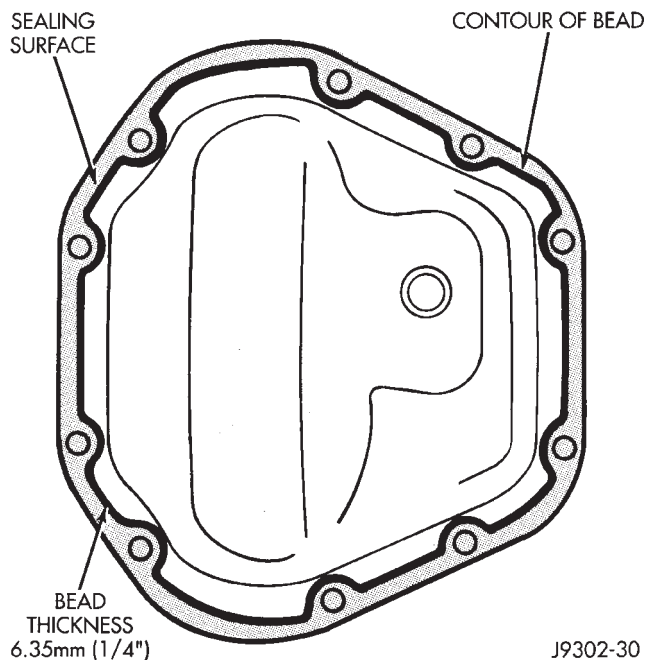

Fig. 43 Typical Housing Cover With Sealant
- (1) Scrape the residual sealant from the housing and cover mating surfaces. Clean the mating surfaces with mineral spirits. Apply a bead of Mopar® Silicone Rubber Sealant, or equivalent, on the housing cover (Fig. 43).